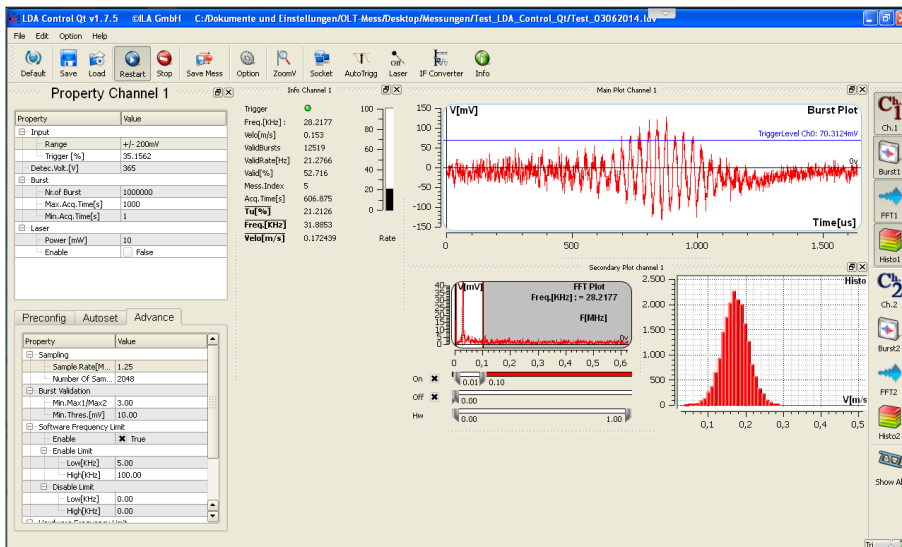

Figure 20: Main User Interface
Figure 20 shows the main User Interface (UI) of the LDA CONTROL QT-Software. This could be a typical view of the user interface during a measurement. In this case only one channel is acquired (channel1). The three important displays (Burst-Plot, FFT-Plot and Histogram) will be explained in detail in chapter 8.2, 8.3 and 8.4.